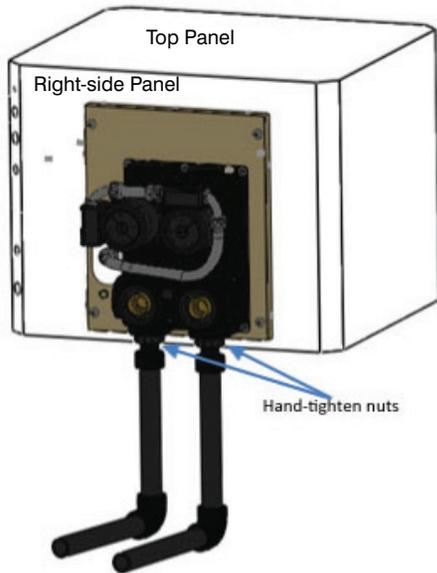

Fig. 6 — Insertion of Pipe Risers Into Flow Center
- j. Replace unit, attaching the double O-ring fitting into bottom of flow center. See Fig. 6. Care must be taken to ensure the O-rings do not get pinched, or roll out of the O-ring groove on the fittings.
- k. Hand-tighten the nuts to secure the fittings to the flow center (see Fig. 6 And 7).